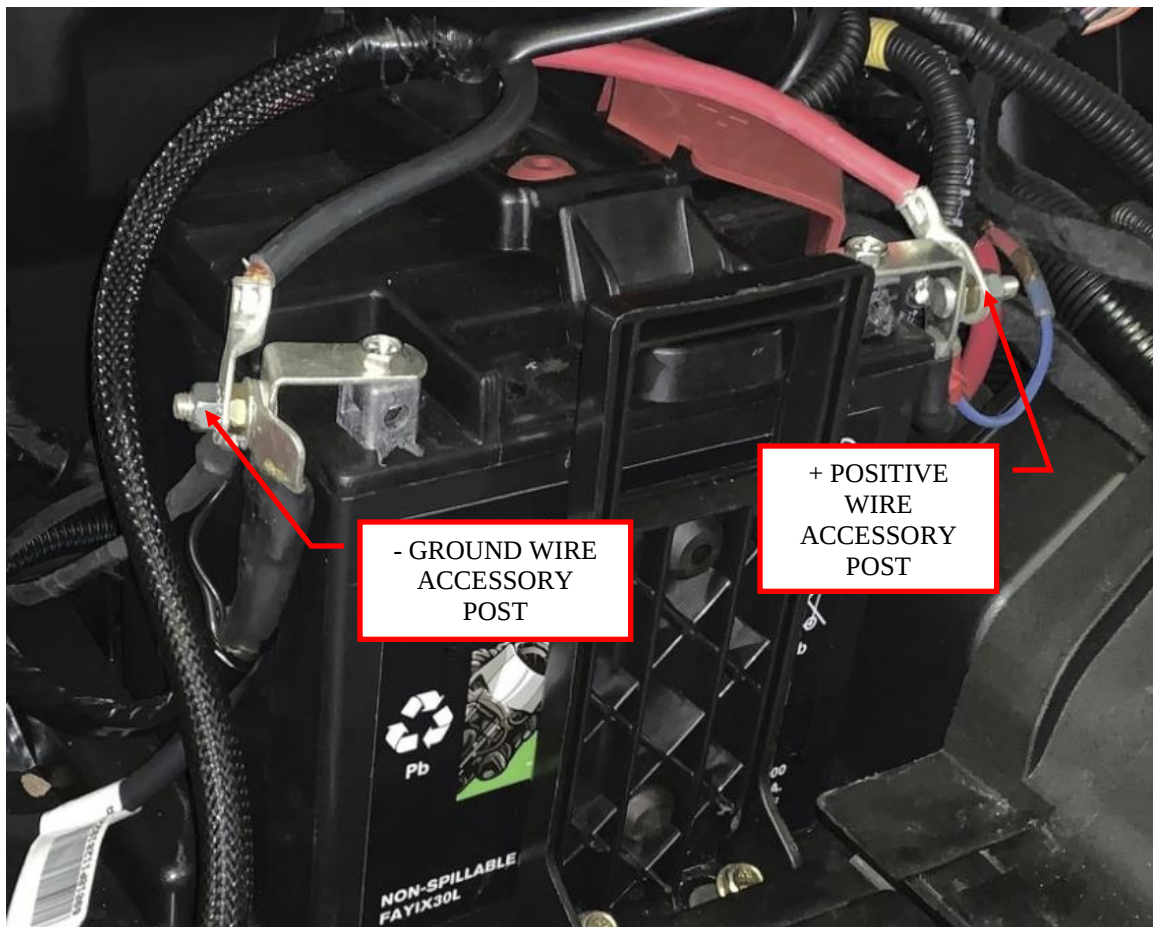
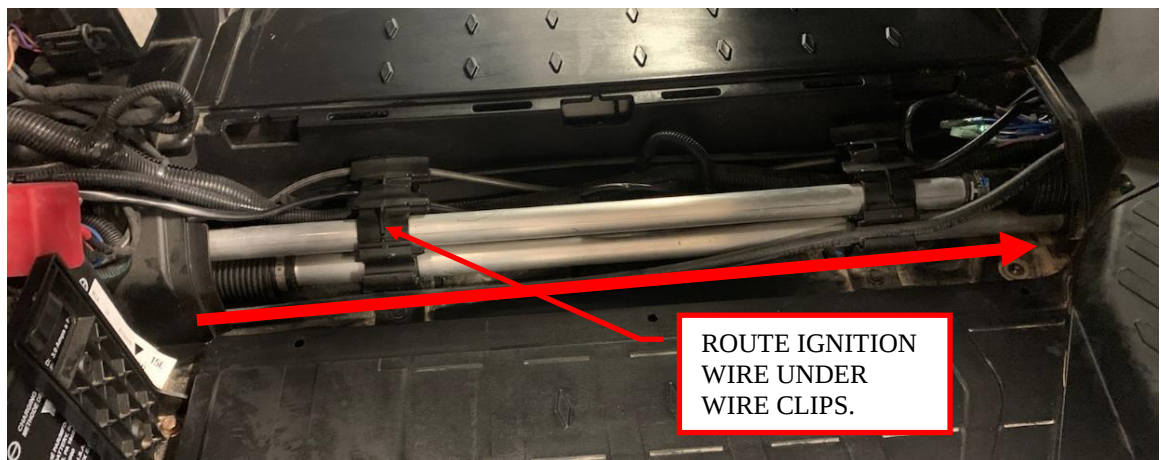
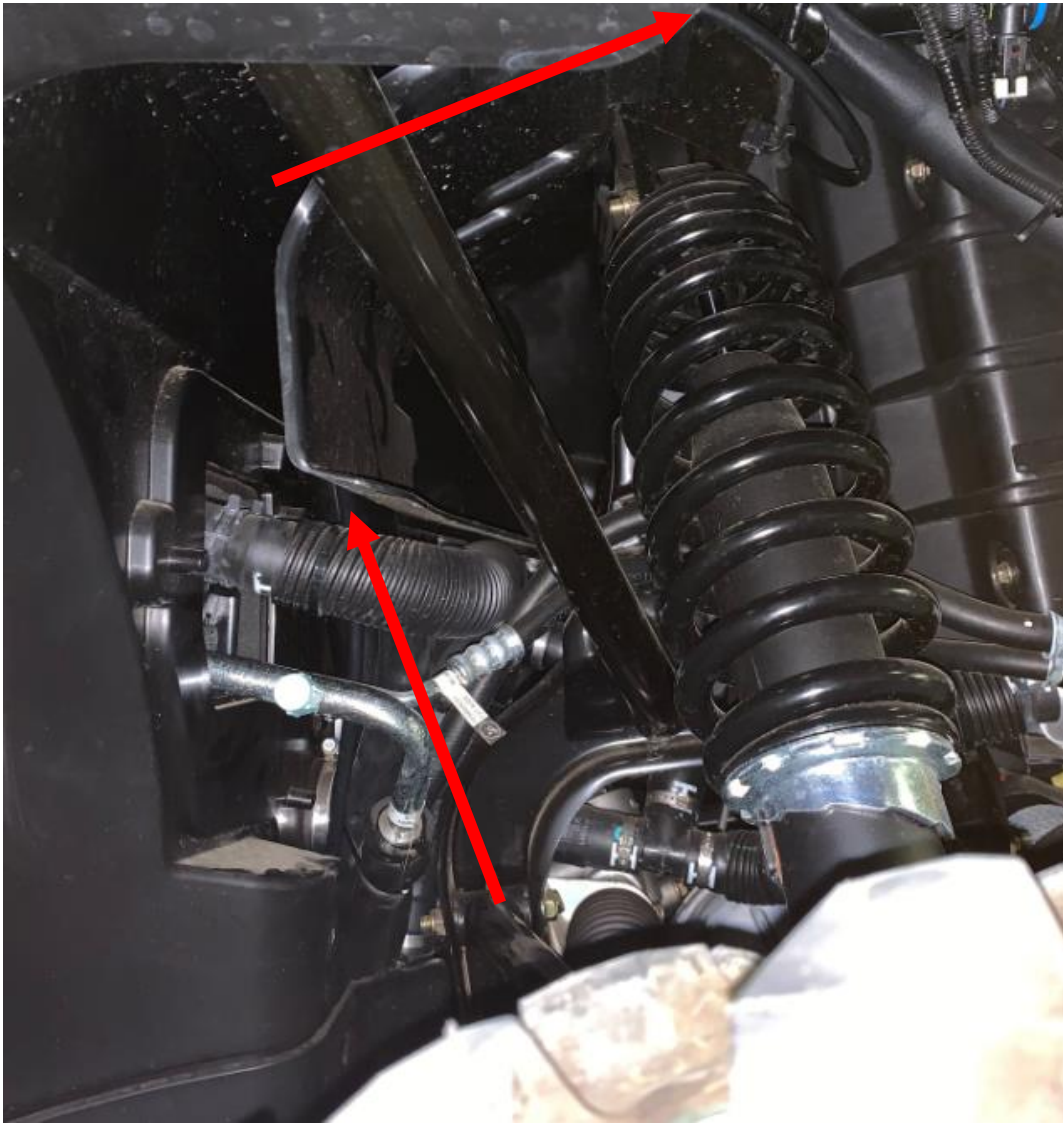
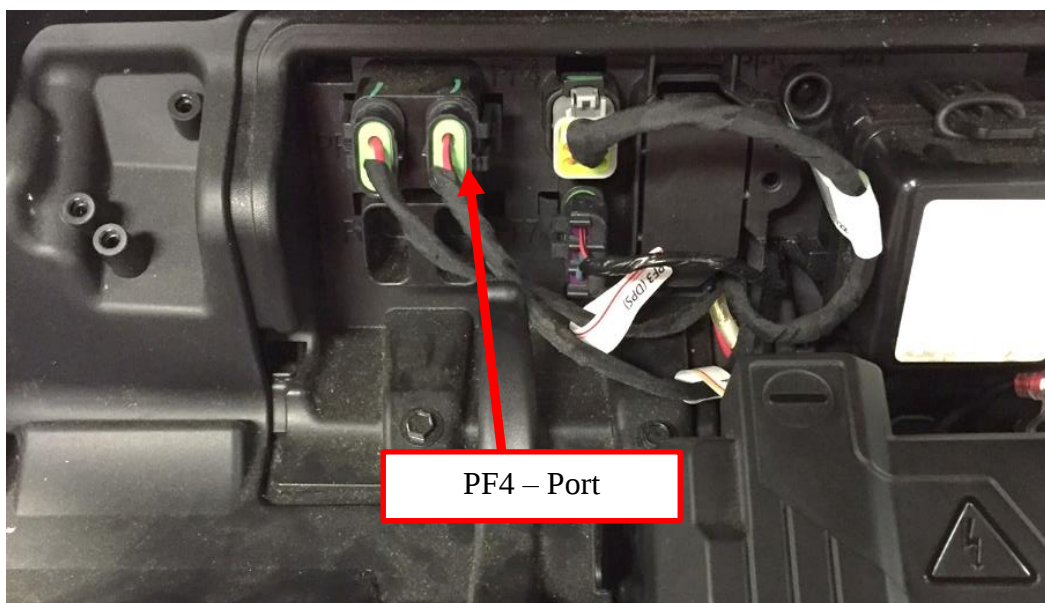

Figure 11: Attach the power wires.
Figure 13: Wire access tunnel removed (front shown, rear similar).
Figure 14: Wire routing in front fender.
Figure 15: Accessory port connection.
12. Connect the red power wire to the positive terminal of the battery. Connect the black ground wire to the negative terminal of the battery. Use the supplied M6 nut to clamp the cable down to the accessory posts on the battery terminal. See Figure 11.
14. Remove the floor board wire access tunnel cover. The cover is held in place with 3 plastic rivets. Pry the inside circle of the plastic rivet up to release it. See Figure 13.
15. Route the ignition wire from the chassis harness (near the area where you made the battery connections in Figure 11) through the wire access tunnel and up the frame inside the wheel well. Finally tuck the wires into the area under the hood. See Figure 13, Figure 14, and Figure 15.
16. Unplug the factory fuse holder in the port labeled PF4. See Figure 15.